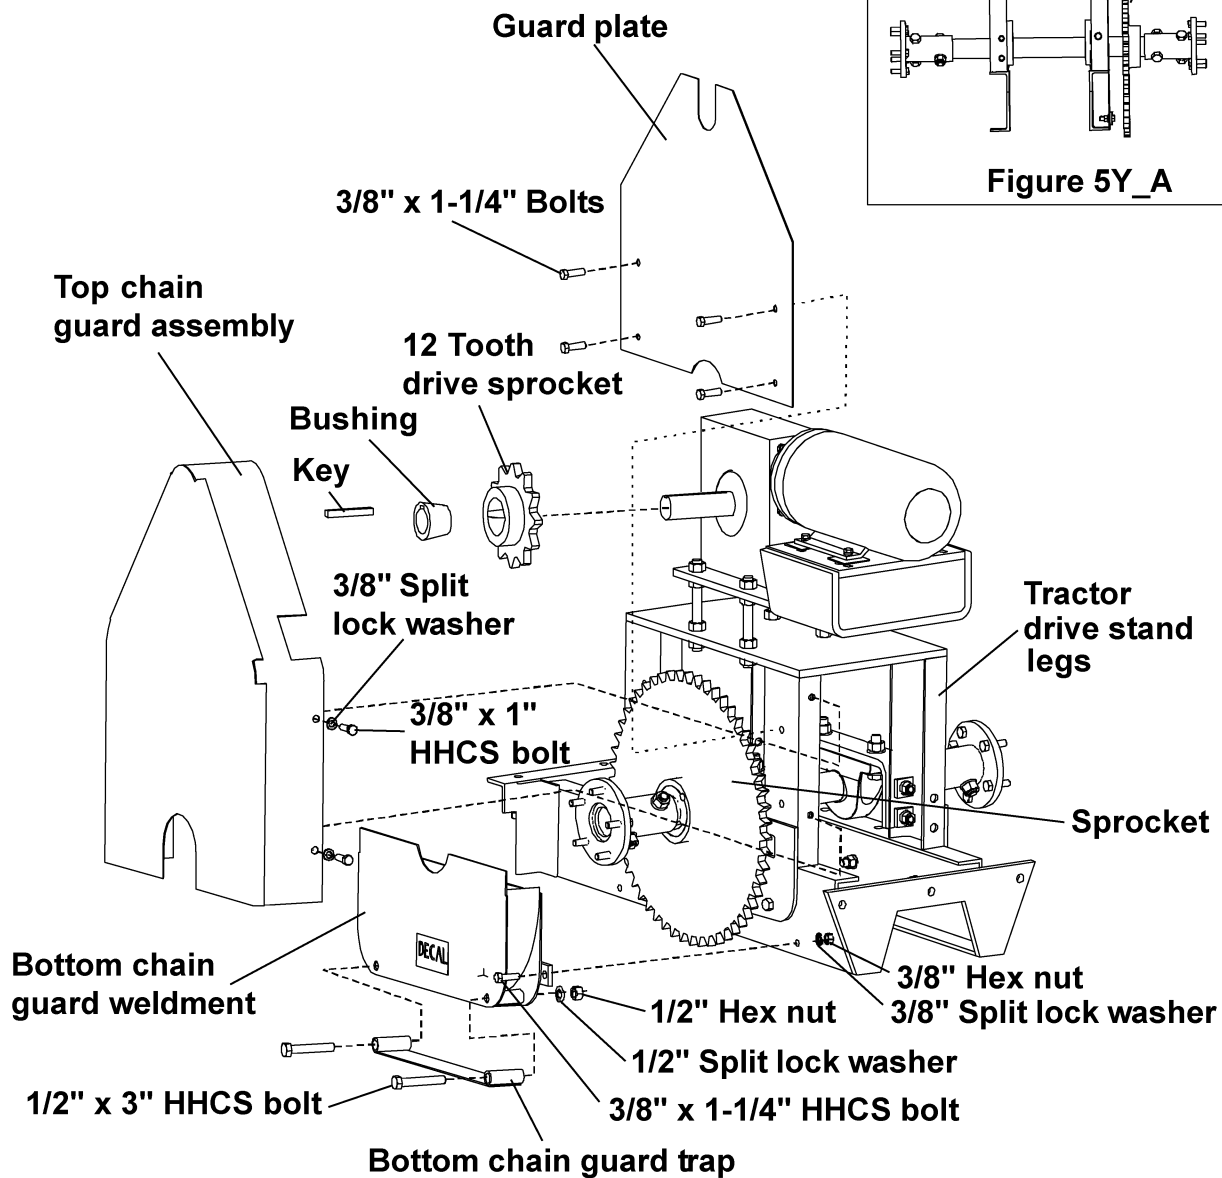

Figure 5Y
- Attach the Guard Plate to the Tractor Drive Stand Legs using 3/8" bolts and nuts before attaching the drive sprocket. (See Figure 5Y on Page 39.)
- Slide the twelve tooth drive sprocket, bushing, and key (see key chart for your size key) onto the output shaft of the reducer, make sure both sprockets line up. (See Figure 5Y and Figure 5Y_A on Page 39.)
- Attach Top Chain Guard Assembly to Tractor Drive Stand using 3/8" x 1" bolts, 3/8" split lock washers and 3/8" hex nuts. (See Figure 5Y on Page 39.)